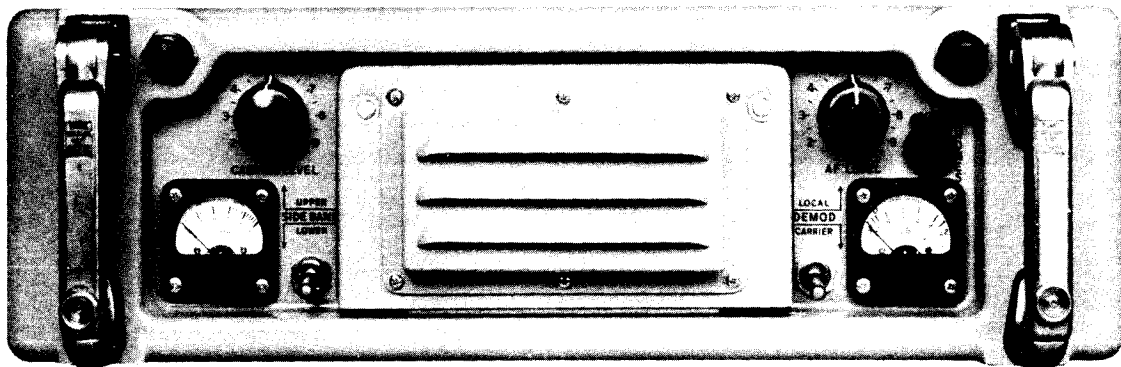

Figure 1-3. Upper Chassis, Front View
b. UPPER CHASSIS ASSEMBLY.—The upper chassis assembly includes the front panel and the circuit components mounted on the chassis. See Figure 1-3. The circuits located in the upper chassis include the carrier and sideband channels; the automatic-frequency-control circuits (excluding the servo amplifier and the motor circuits), the AGC circuits and one fan motor circuit.